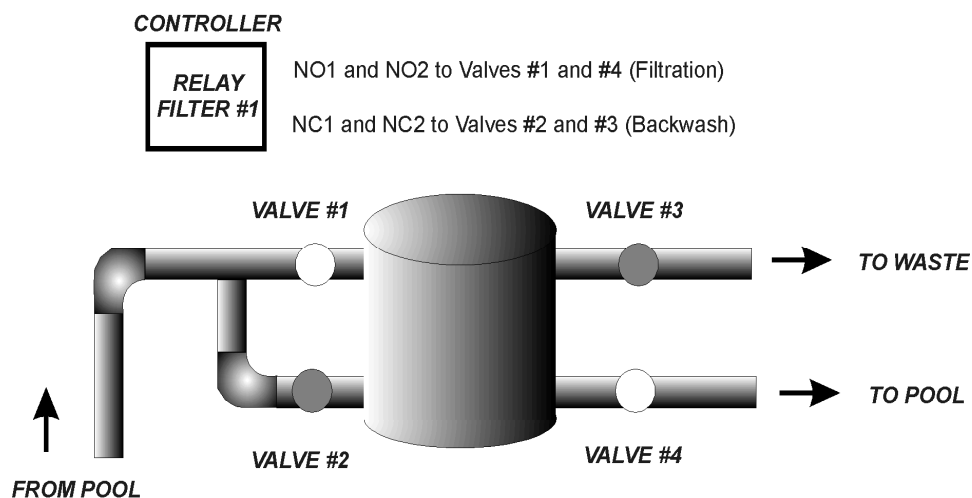

Figure 50. Single Filter Backwash
As shown in **Figure 50**, backwashing of a single filter is controlled with four valves that are connected to the Normally Open (NO) and Normally Closed (NC) poles of Filter Relay 1.